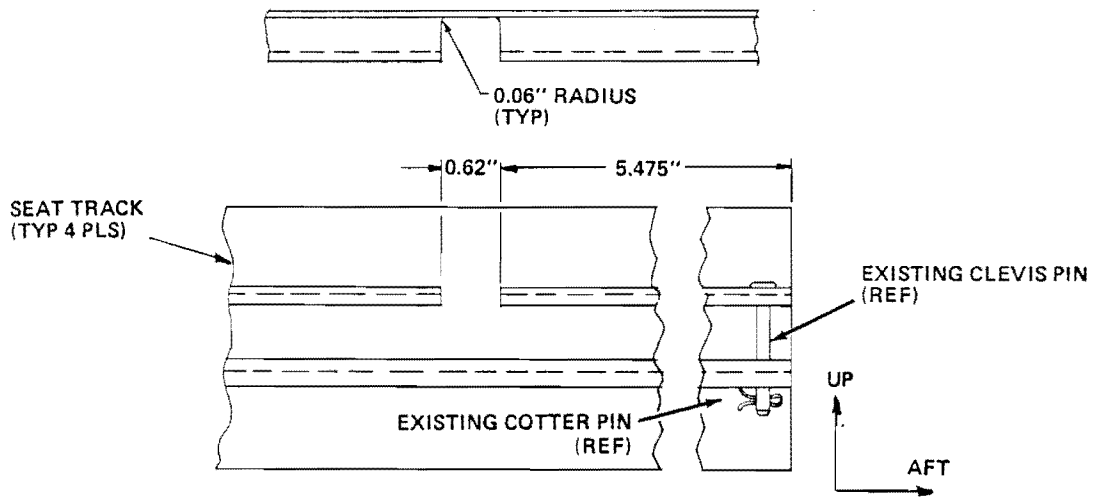

Figure 3.
- b. Turn mechanism handle so that locking pins are in the retracted position and push seat assembly forward until locking pins are in line with slots shown in Figure 3.